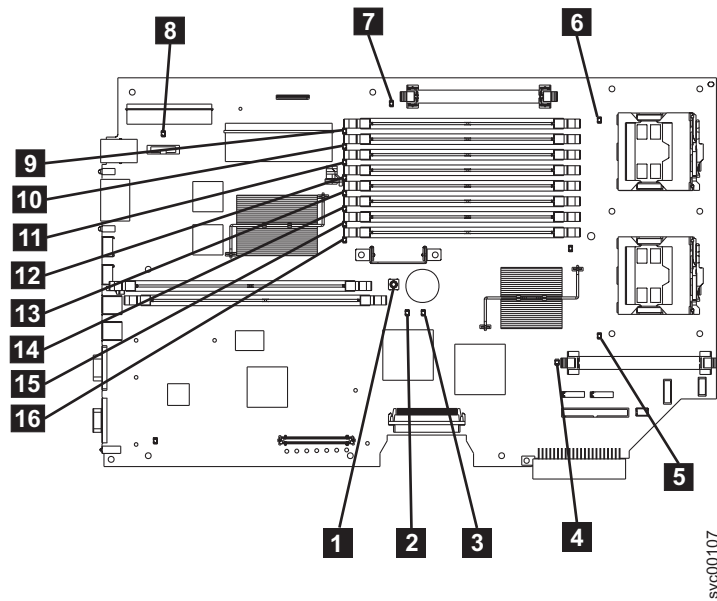

Figure 101. The SAN Volume Controller 2145-8F4 or the SAN Volume Controller 2145-8F2 system board
- YES** Refer to Table 29 on page 423 and perform the action specified for the specific light path diagnostic LEDs, then go to step 3 on page 425. Some actions will require that you observe the state of LEDs on the system board or on the fan backplanes. The location of the system board LEDs are shown in Figure 101 on page 423. The fan LEDs are located adjacent to each FAN. To view the LEDs you will need to do the following:
- Press the light path diagnostic button **1**. See Figure 101 on page 423.